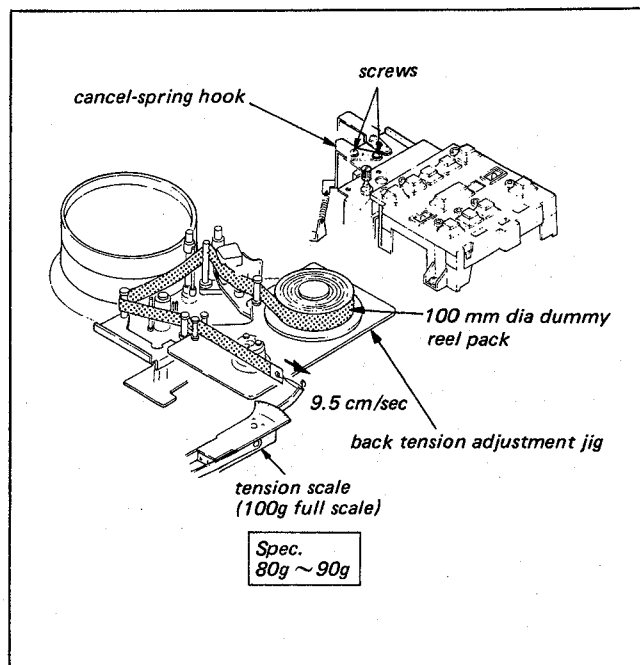

Fig. 5-4. F.FWD back tension adjustment (F.FWD mode)
2. Install the Back Tension Adj. Jig (Jig Ref. No. J-12) as shown in Fig. 5-4.
3. Install a 100mm diameter dummy reel pack tape (Jig Ref. No. J-7) on the Supply Reel-Table and thread the tape as shown in Fig. 5-4.
Hook a tension scale (100 g full scale) (Jig Ref. No. J-16) on an end of tape and pull it at the constant speed approx. 9.5 cm/sec speed in the direction shown by Fig. 5-4.